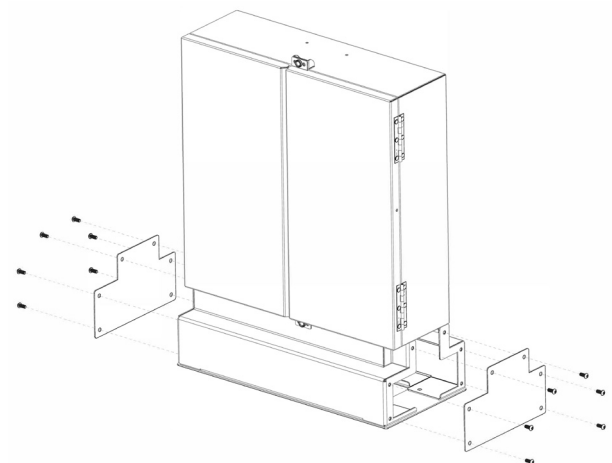

Figure 15. Removing Side Access Covers From Ground Spacer/Riser
Use the 216B key tool to un-latch and latch the cabinet door as needed during the mounting process. Refer to Figure 15 as necessary when mounting the cabinet.
11.2.4.1 Use a 3/16-inch hex-key to remove the screws that secure the access covers to the left and right sides of the cabinet ground spacer/riser as shown in Figure 15.